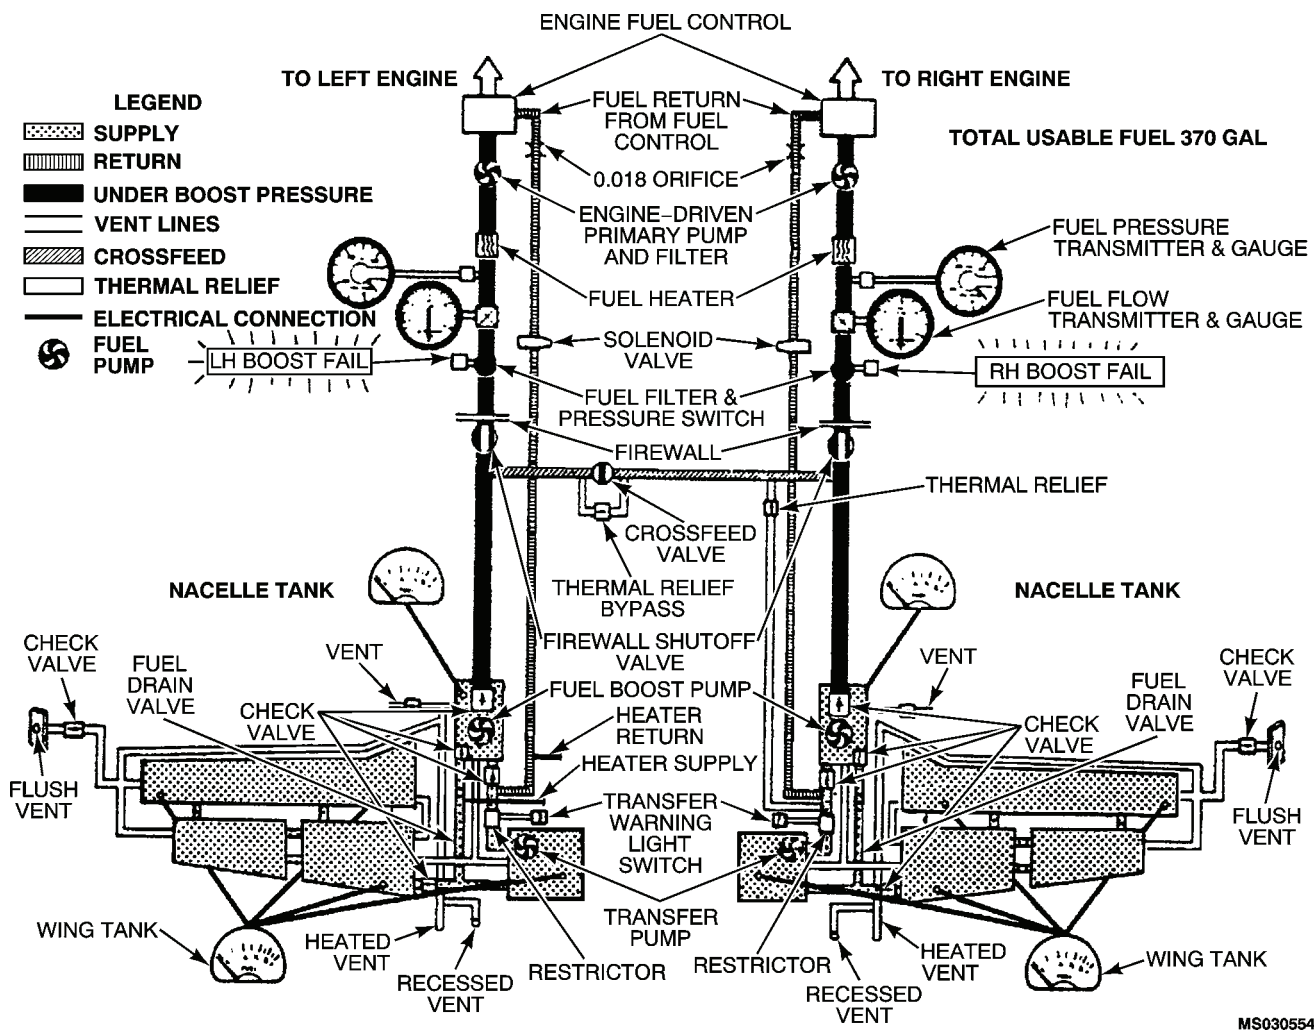

Figure 2-21. Typical Fuel System Schematic.
(3) Maintenance. Maintenance of the CCR receiver consists of inspection (and replacement if necessary) in accordance with the applicable maintenance manuals. Scoring and nicks in the cylindrical fuel nozzle opening may be repaired by polishing out damage. Refer to the applicable maintenance manual for polishing procedures.
j. Fuel System Troubleshooting. Troubleshooting should be accomplished in accordance with applicable aircraft maintenance manuals. A typical troubleshooting chart and a schematic are shown in table 2-9 and figure 2-21.